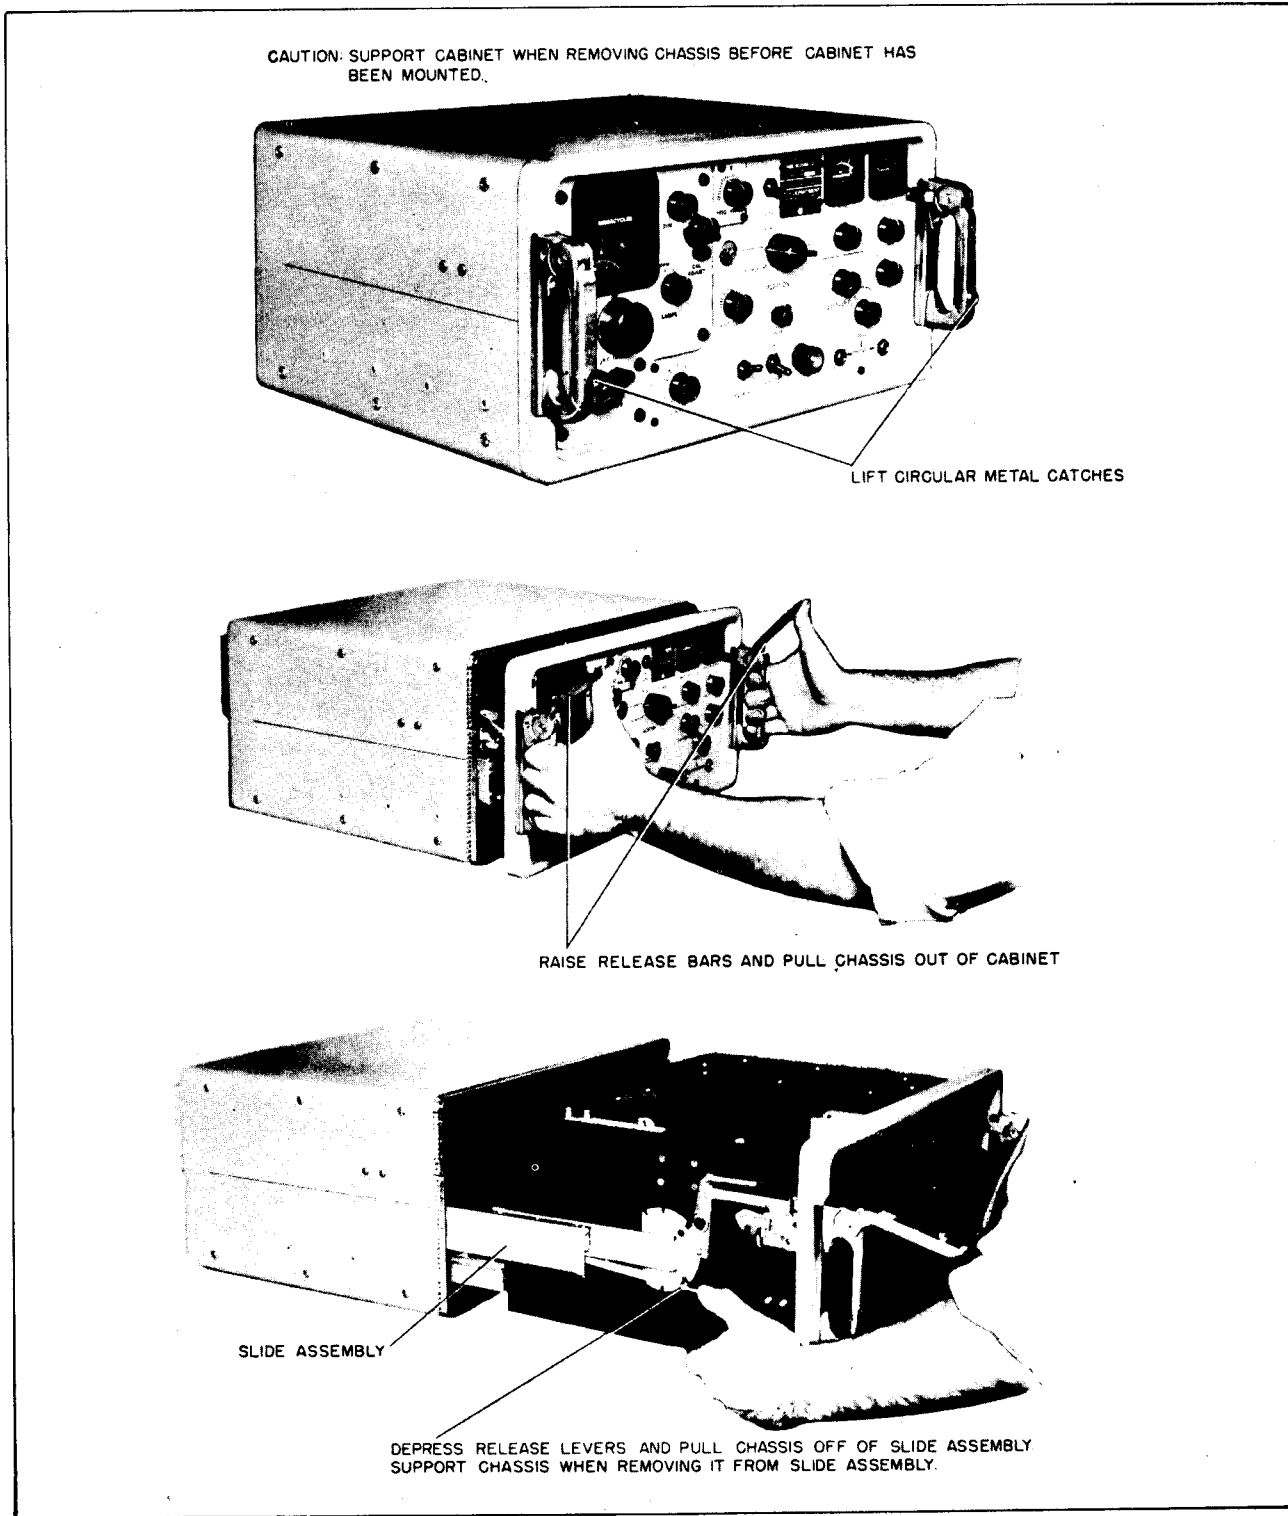

Figure 3-2. Removal of Chassis from Cabinet
a. REMOVING THE CHASSIS.—Refer to figure 3-2. Lift the circular metal catches located toward the bottom of the two handles at the sides of the front panel and raise the two release bars astride the handles as far as they will go, then slide the chassis out. Depress the two chassis release levers located on the sides of the chassis, and pull the chassis off of the slide assembly (support the chassis and the cabinet while removing chassis from slide assembly).